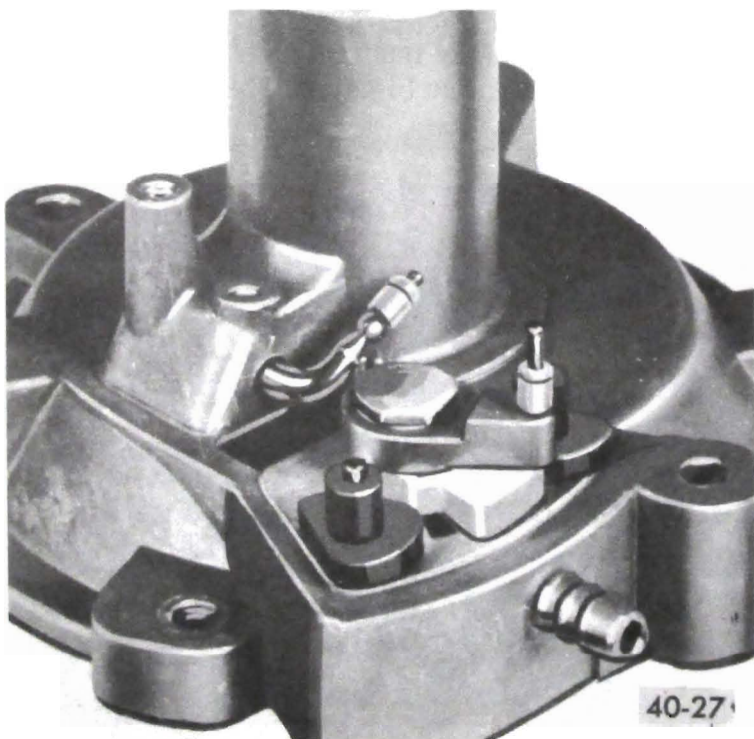

Figure 40-36 - Removal of Distributor Valve
1. Remove screw, washer, distributor arm assembly, washer and distributor valve bushing. See Figure 40-36.